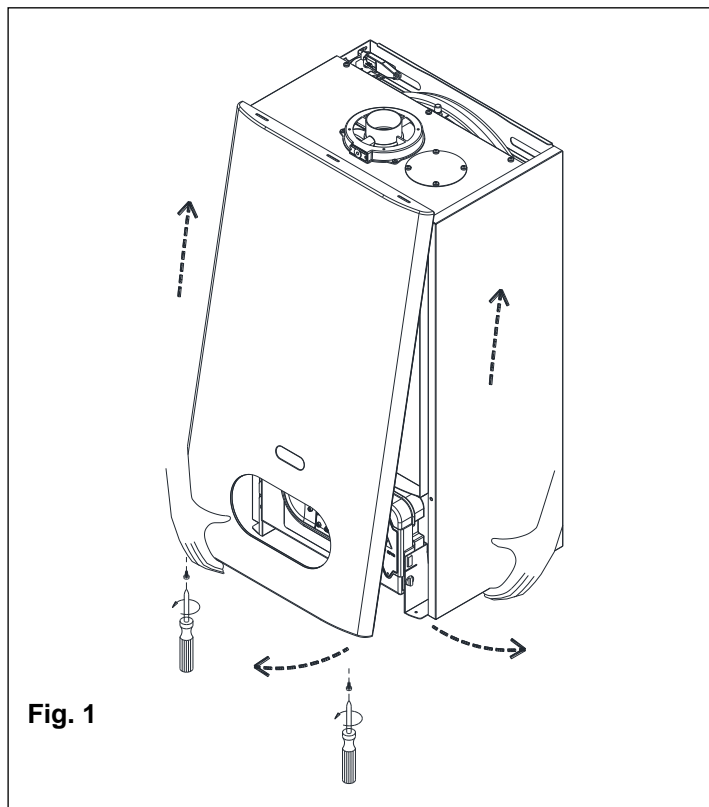

Fig. 1
- Remove the front panel (see fig. 1 and fig. 2).